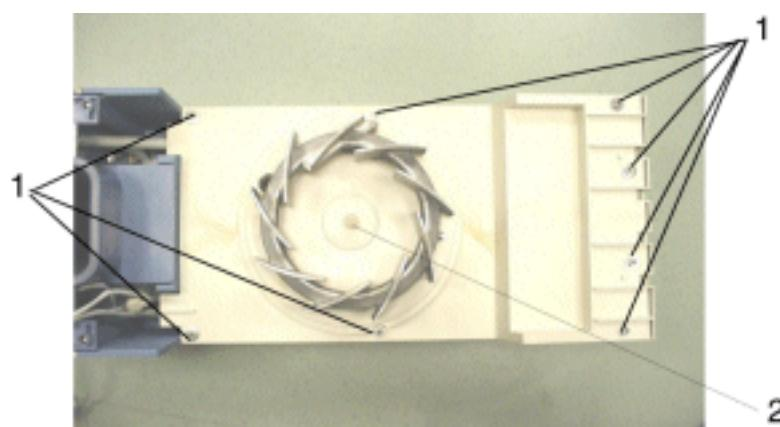

Fig. 152 Front view of the air heater
6. Carefully remove rubber sleeve (2) from shaft of fan motor, see Fig. 152.
7. Remove screws and washers (1), see Fig. 152.